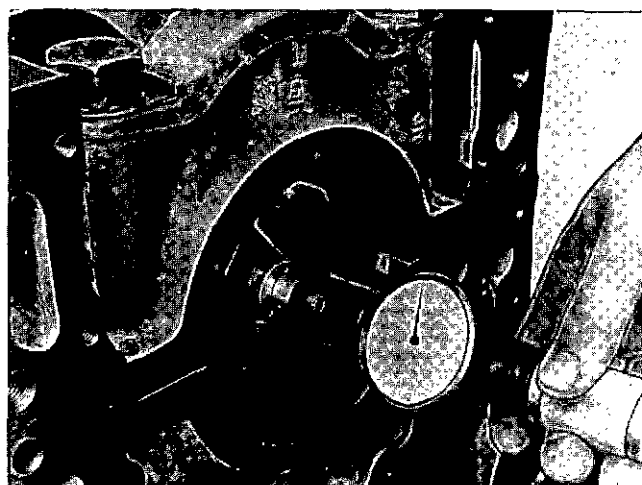

Fig. 1-1-11, V40103. Checking main bearing bore for out-of-round
2. Gauge main bearing bore horizontally, vertically and diagonally with dial bore gauge or inside micrometers properly adjusted to standards, Fig. 1-1-11. See Table 1-1-8.